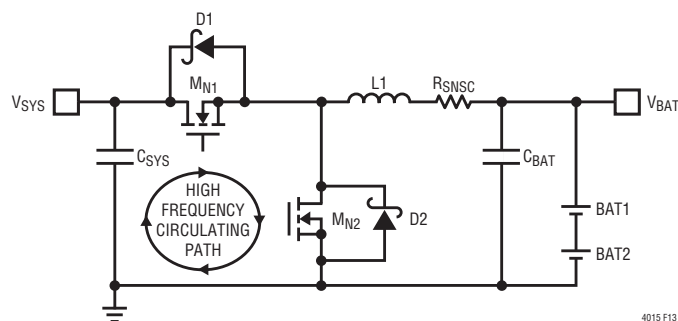

Figure 13. High Speed Switching Path
1. Keep M1, M2, D1, D2 and  $C_{SYS}$  close together. The high di/dt loop formed by the MOSFETs, Schottky diodes and  $C_{SYS}$  shown in Figure 13 should have short wide traces to minimize high frequency noise and voltage stress from inductive ringing. Surface mount components are preferred to reduce parasitic inductances from component leads. Connect the drain of the top MOSFET and cathode of the top diode directly to the positive terminal of  $C_{SYS}$ . Connect the source of the bottom MOSFET and anode of the bottom diode directly to the negative terminal of  $C_{SYS}$ . This capacitor provides the AC current to the MOSFETs.